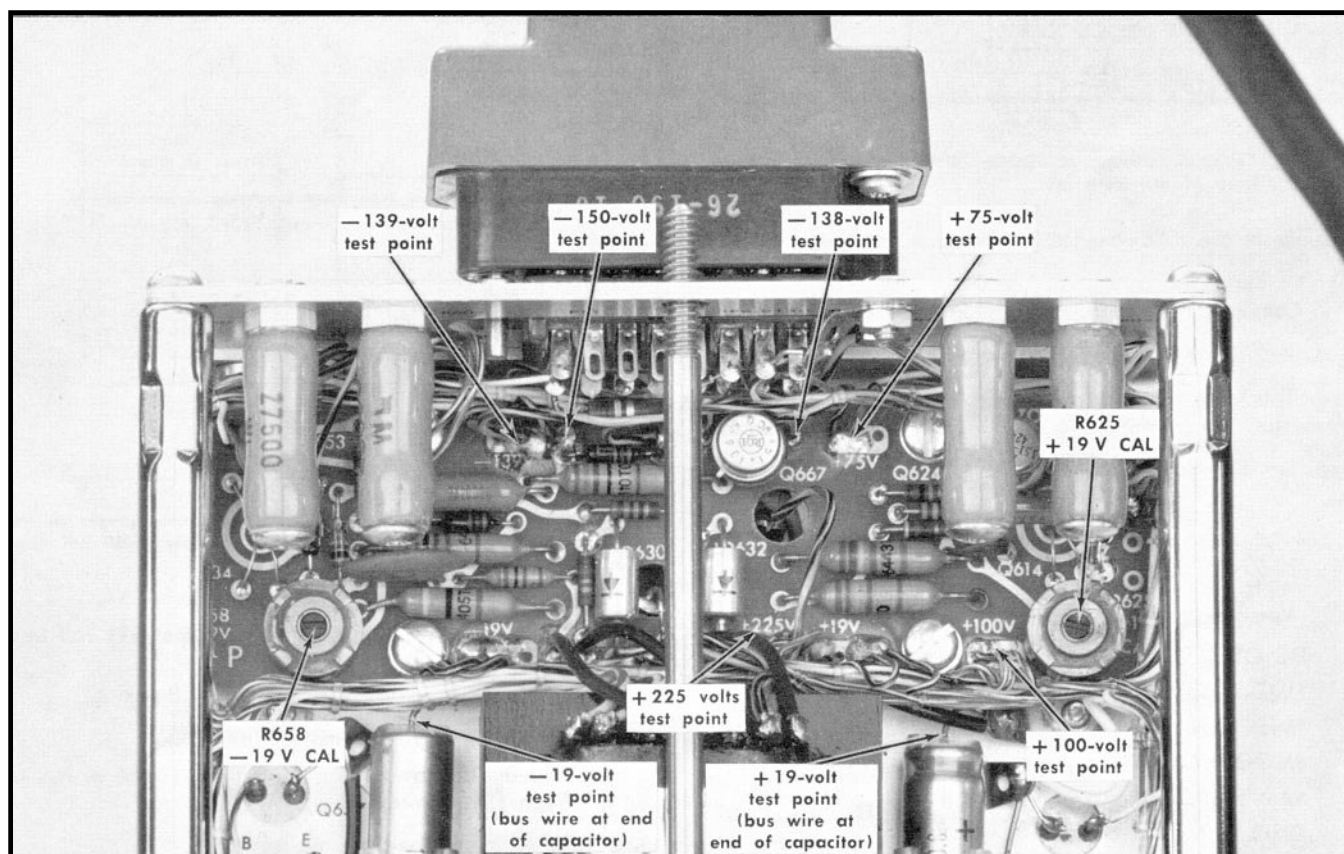

Fig. 5-4. Voltage test points and adjustment controls on bottom side of Type 1S1.
- Touch the tip of the 1X test probe to the -19-volt test point (see Fig. 5-4).
- Touch the probe tip to the +19-volt test point (see Fig. 5-4).
b. Connect the tip of the 1X test probe to the -19-volt test point (see Fig. 5-4). Be sure to connect the test probe ground clip to chassis ground.
h. Connect the tip of the test probe to the +19-volt test point (see Fig. 5-4).